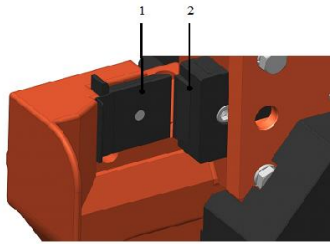

Figure9: Correct placement of the cutters
- Belt tension should be adjusted by motor tension bolt. (Figure 9)